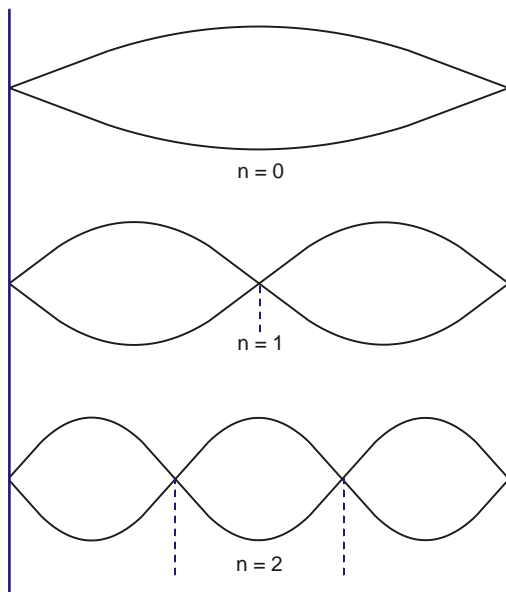

Fig. 3: Standing waves
This implies that the condition for resonance (5) is only fulfilled if the length  $L$  is an integer multiple of half the wavelength. The resonant frequency must correspond to this wavelength. In this case,  $n$  is the number of nodes in the oscillation. This is zero if there is only one anti-node in the fundamental oscillation (see Fig. 3).